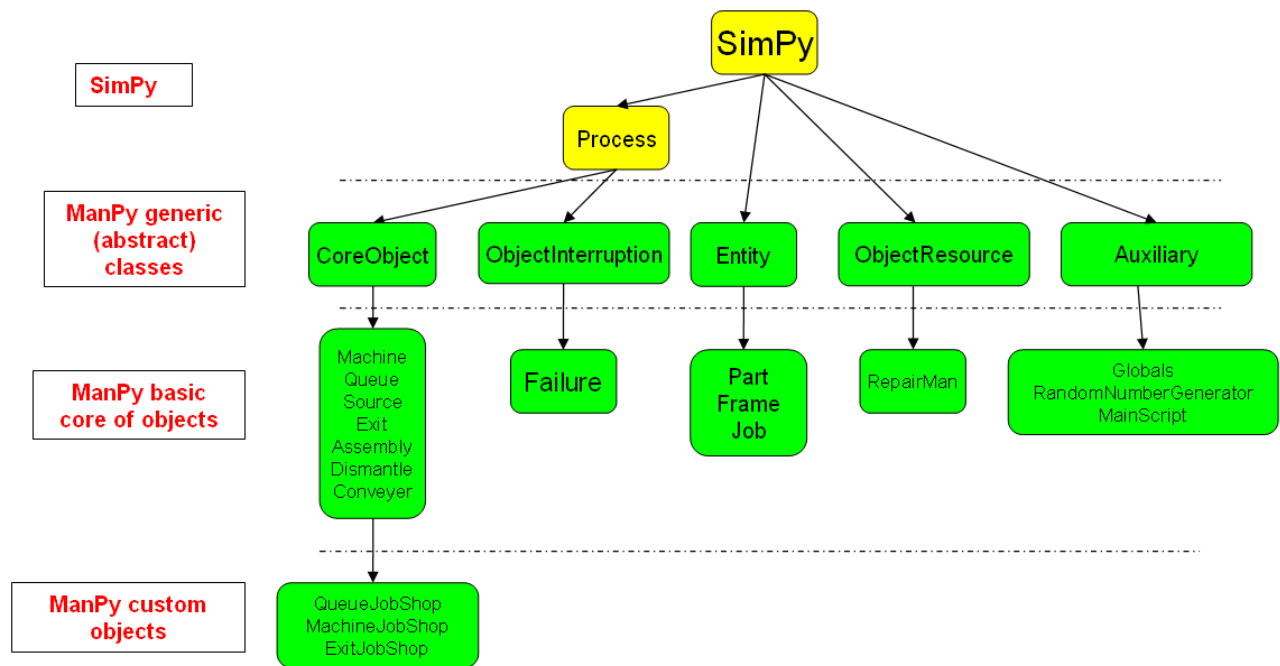

Figure 1: The ManPy class hierarchy.
ManPy objects are written exclusively in Python and they use methods of SimPy. Figure 1 shows the current state of the architecture.
In Figure 1 four different layers are depicted:
- ⌚ **Auxiliary**: These are auxiliary classes that are needed for different simulation functionalities. Unlike the other categories described here, auxiliary classes do not inherit from one parent class, even though it is depicted in such a way in Figure1 for reasons of coherence.